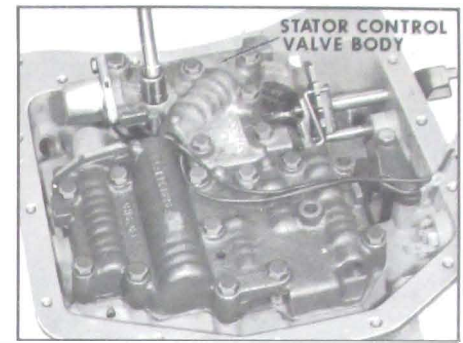

Figure 5-340
6. Install stator control valve body and seven (7) bolts retaining the stator control valve body. Torque bolts to 8-12 ft. lbs. See Figure 5-340.